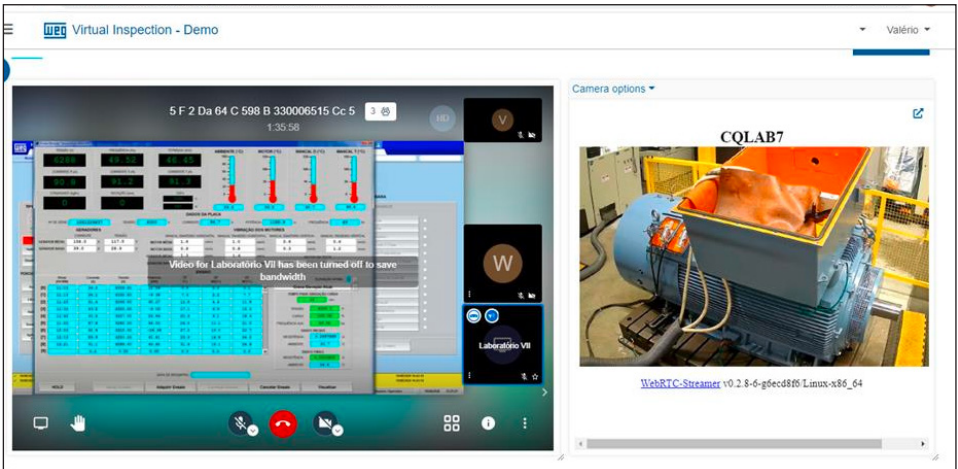

Figure 8 - Live inspection
- You can follow the live inspection as detailed in the Figure 8